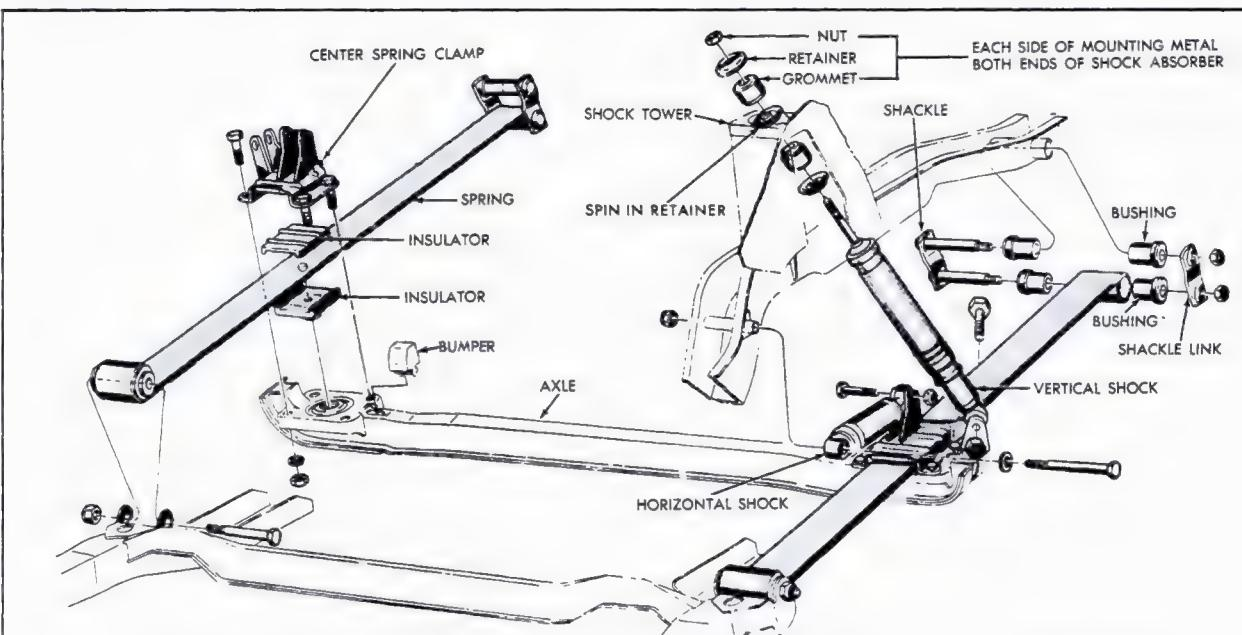

Fig. 4-16 Rear Suspension - 693
The rear suspension, Fig. 4-16 on 693 series cars consists of two single leaf, semi-elliptical springs, two vertical and two horizontal shock absorbers.
22. Rear Vertical Shock Absorber, (Fig. 4-16)
23. Rear Horizontal Shock Absorber, (Fig. 4-16)
24. Rear Leaf Spring,(Fig. 4-16)